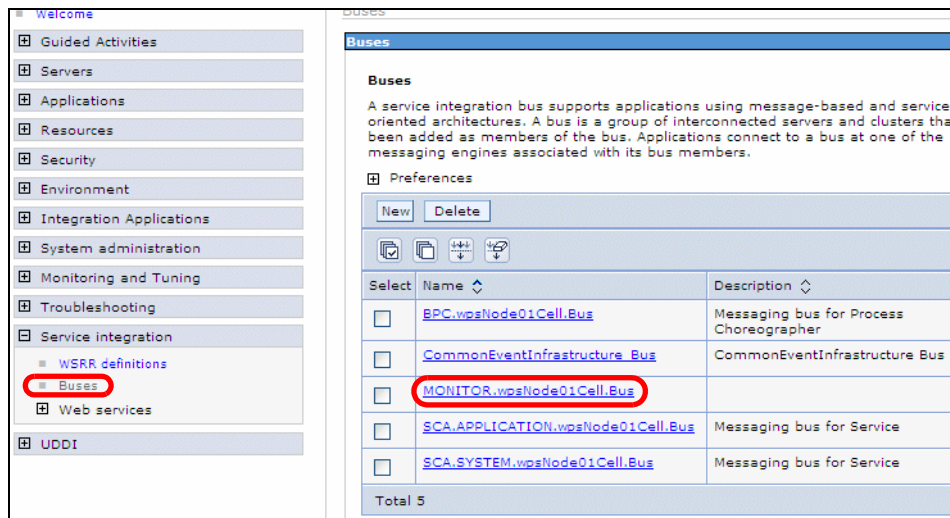

Figure 14-24 WebSphere Process Server Administrative Console: Buses
- In the WebSphere Process Server administrative console, navigate to *Service Integration* → *Buses* (Figure 14-24).